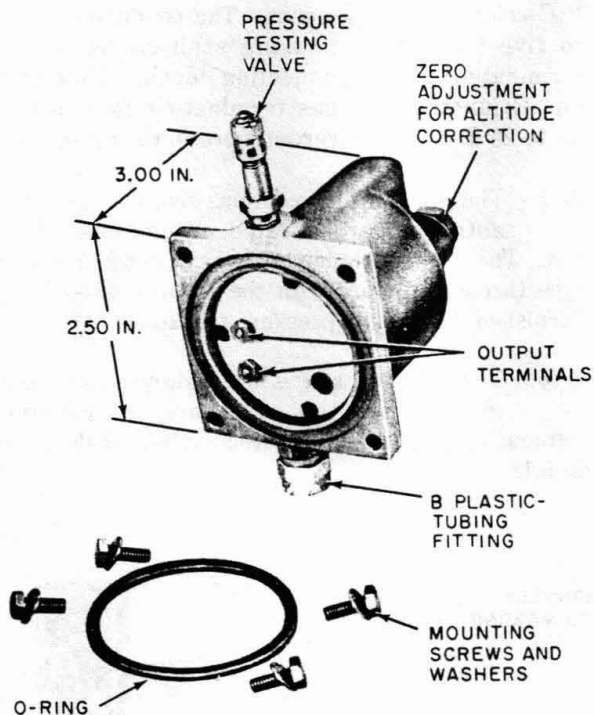

Fig. 1—F Underground Pressure Transducer
5.02 The F pressure transducer (Fig. 1) is an air pressure activated stepped-switch instrument which converts cable pressure to electrical resistance. This transducer is capable of measuring pressures in the range of 0.0 to 9.5 psi (pounds per square inch) in 0.5 psi increments with corresponding resistance values from 100K ohms to 3.82M ohms.